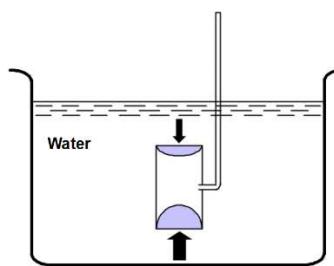

Fig.2
4. Turn the head of water pressure indicator to the vertical position and sink it into the water of a tank. You can observe how the degree of dent differs between top and bottom of rubber films at a glance. (Fig.2).